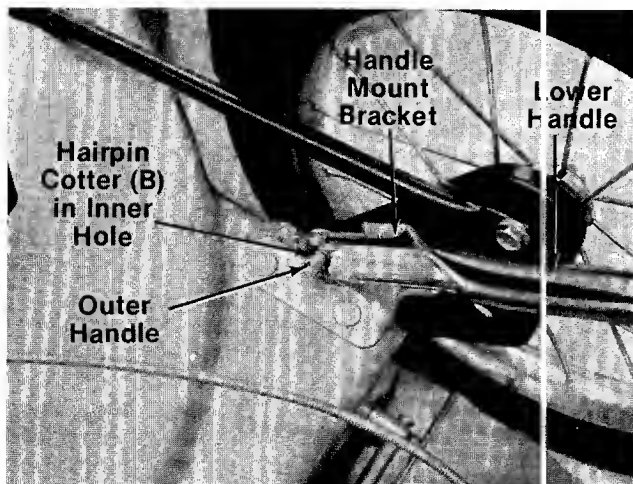

FIGURE 2.
- A (1) Rope Guide Bolt
- B (2) Hairpin Cotter
- C (2) Lock Washers 5/16" I.D.
- D (2) Hex Nuts 5/16-18 Thread
- E (1) Curved Head Carriage Bolt
- F (2) Cable Ties
3. Attach the lower handle by placing the bottom holes in the lower handle over the weld pins on the handle mount brackets. Make certain the instruction label on the lower handle can be read from the operating position. Secure with hairpin cotter (B) in inner holes on weld pins. See figure 2.